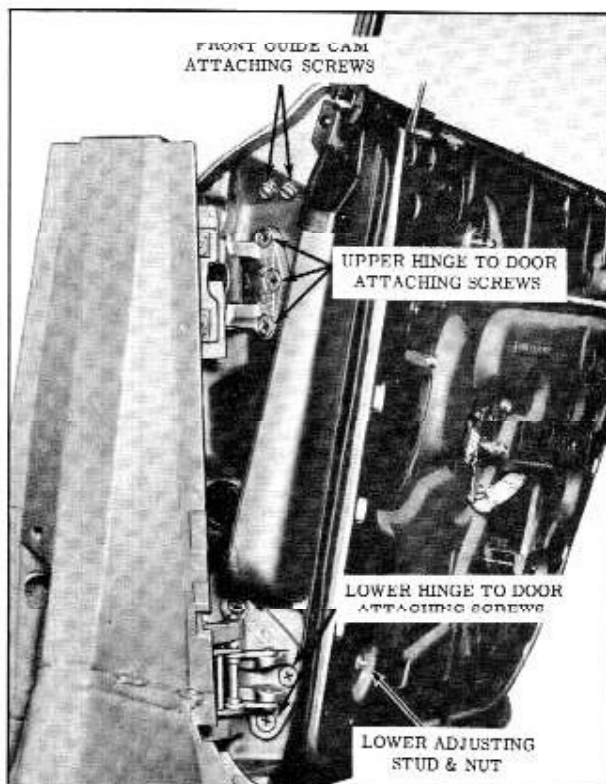

Fig. 17-43 Rear Door Hinge Attachment
1. For in and out or up and down adjustment, loosen hinge to door pillar attaching screws. (Fig. 17-43) Adjust door as required and tighten screws.